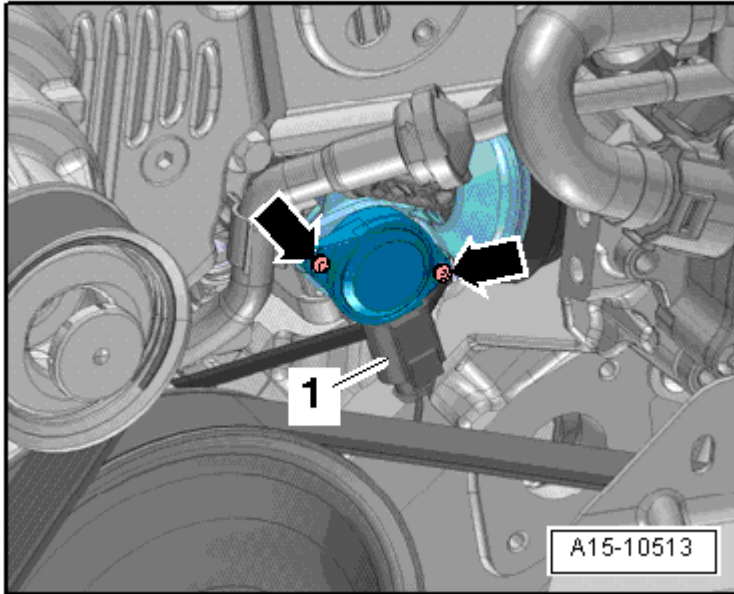

Fig. 21: Identifying Intake Manifold Runner Position Sensor -G336-
- Component location, refer to **Fig. 21**